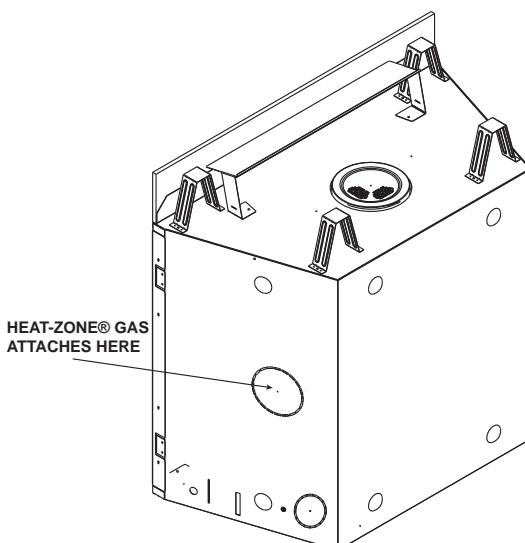

Figure 8.6 Heat Zone Cover Plate
- Remove the knockout from the fireplace and discard it (see Figure 8.6).